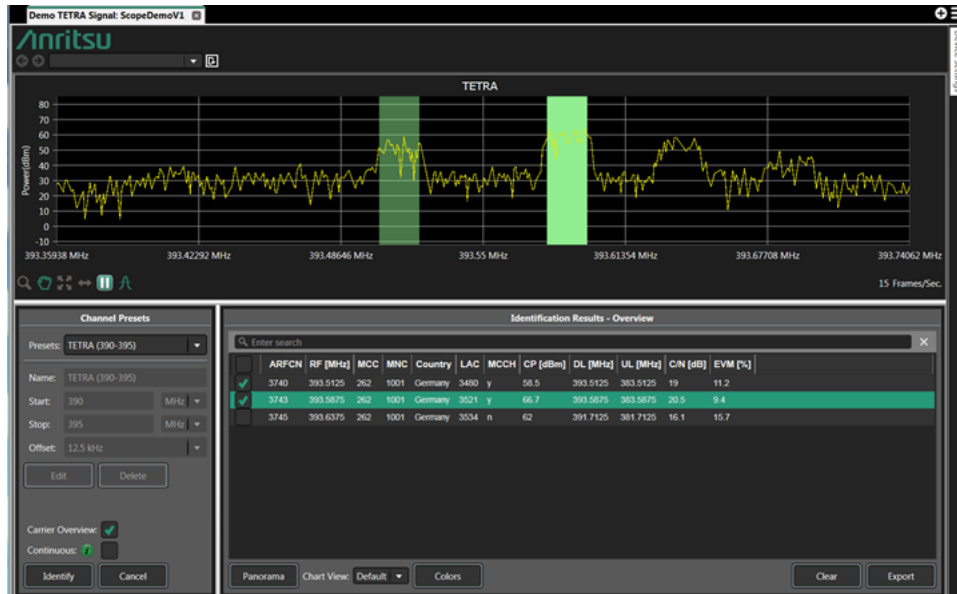

Figure A-7. Carrier Overview Window
8. Users can also select the **Carrier Overview** checkbox to view TETRA signal information for all the signals scanned. See Figure A-7, “Carrier Overview Window”.